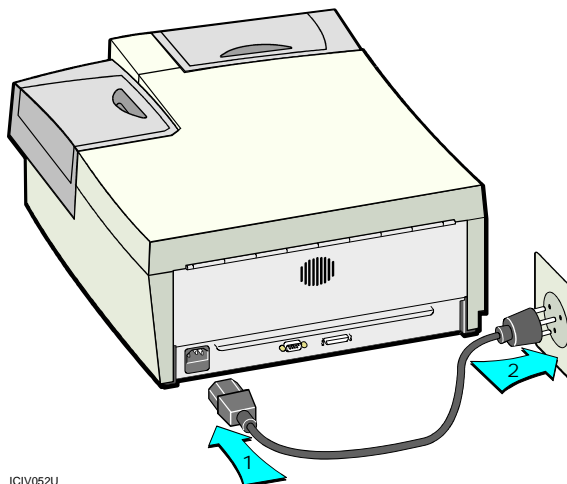

Figure 3-3: Attach the power cord
- 1 Attach the power cord to the power receptacle on the back of the printer (step 1 in Figure 3-3).
- 2 Plug the other end of the power cord into a single phase, 3-wire grounded receptacle with 90-130V AC or 195-254V AC at 50 or 60 Hz (step 2 in Figure 3-3).